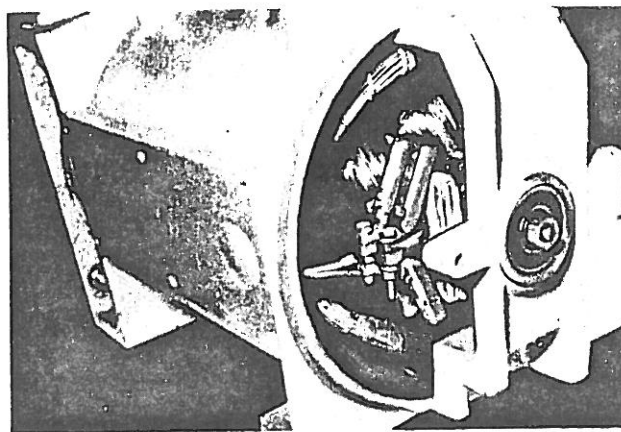

FIGURE 2
- (b) Prop up the brushes using a piece of stiff material approximately 60mm x 38mm between the brushes Figure 2.